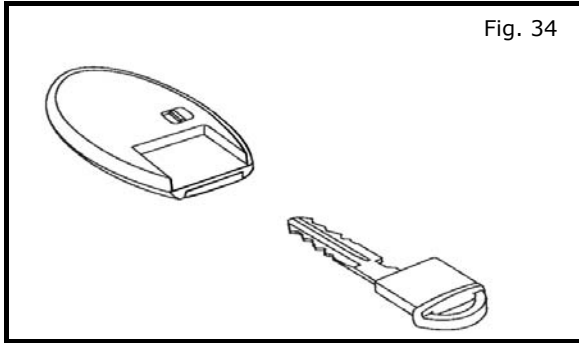

Fig. 34
a) Insert keys into the new RES fobs as shown in Fig. 34.